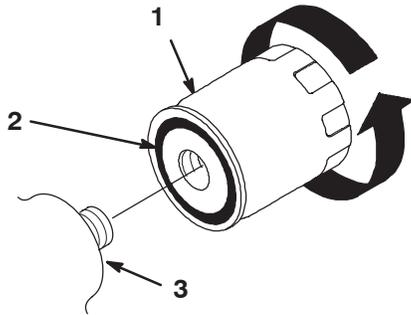

Figure 27
7. Apply a thin coat hydraulic fluid to the rubber gasket on the replacement filter (Fig. 27).
8. Install the replacement hydraulic filter onto the filter adapter. Tighten it clockwise until the rubber gasket contacts the filter adapter, then tighten the filter an additional 1/2 turn (Fig. 27).